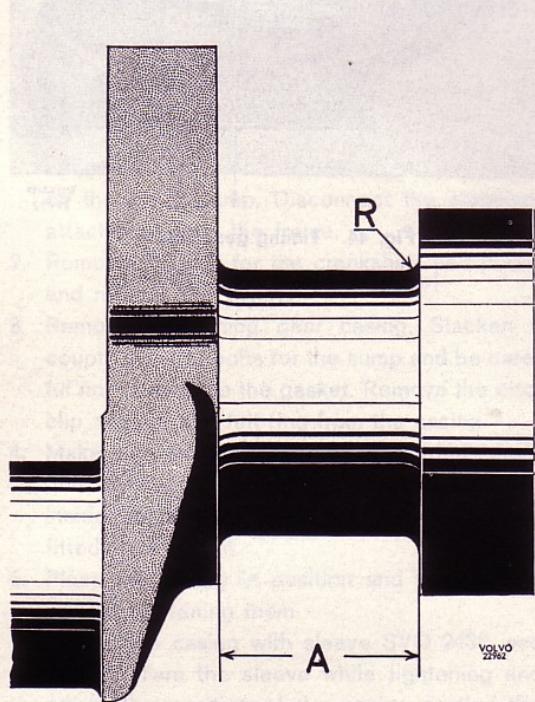

Fig. 41. Bearing journal
The fillets and the ends of the journals should have a radius of 2.0–2.5 mm (0.080–0.100") on all journals, see Fig. 41. The width measurement (A) for the pilot bearing depends on the size of the journal and should be ground in order to obtain the correct measurement.